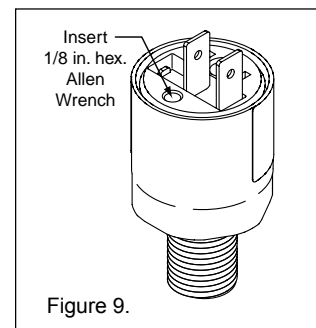

Figure 9.
5. Use an 1/8" Allen wrench to turn the set screw clockwise until the heater shuts down; see Figure 9.